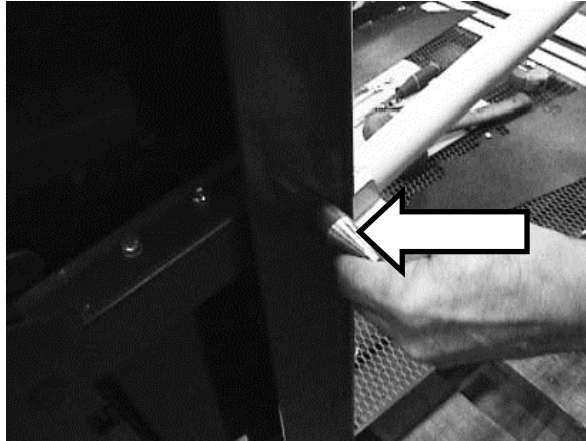

Figure 7. Remove Screw, Attach Bullet
7. Refer to **Figure 7**. Remove and retain Pin Link Screw then attach Pin Link Bullet.